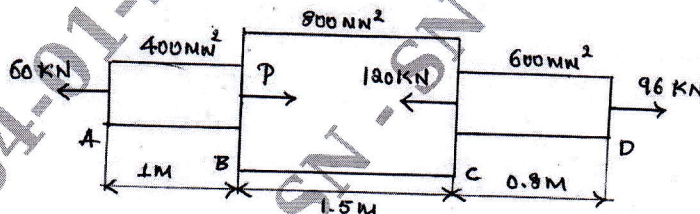

Fig. Q1 (b)
- b. A steel bar ABCD of varying sections is subjected to the axial forces as shown in Fig. Q1 (b). (i) Find the value of P necessary for equilibrium. If  $E = 210 \text{ kN/mm}^2$  determine (i) Stress in various segments (ii) Total Elongation of bar (iii) Total strain in the bar. (10 Marks)